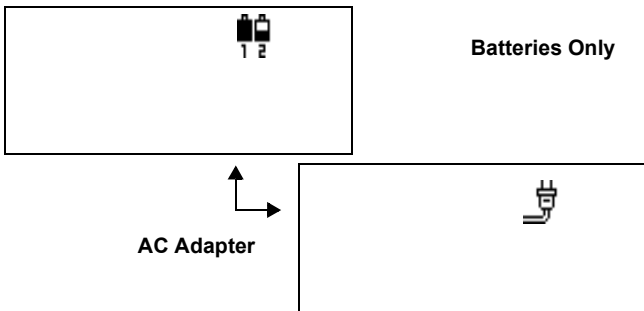

Figure 2-5. Display – Charging Status with GB-1000 Turned Off
- With power turned off and the AC adaptor attached, the status icons blink between the batteries only and the AC adaptor (Figure 2-5). When charging completes, power automatically switches off. If the power key is pressed during charging, power turns back on.